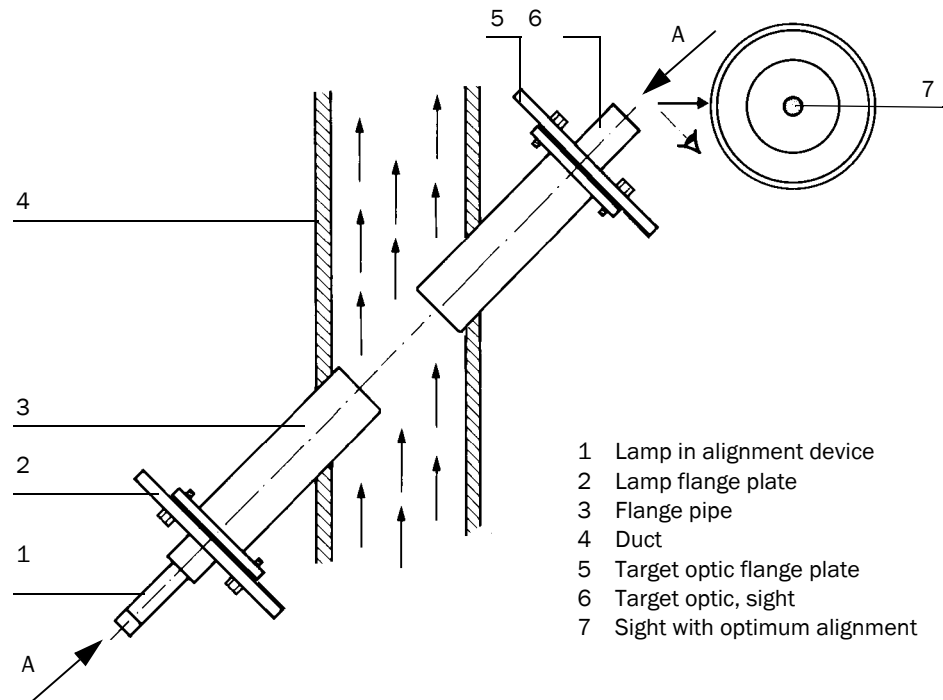

Fig. 3.10: Aligning the flanges with pipe using the optical alignment device
- Once the two flanges with pipe have been mounted, precisely align the flange pipes after they have been tacked into position using a suitable pipe (for smaller ducts) or with the alignment device from SICK MAIHAK (can also be supplied on loan) (see **Fig. 3.10**). The alignment device is suitable for types H, H-AC, PM, PH only